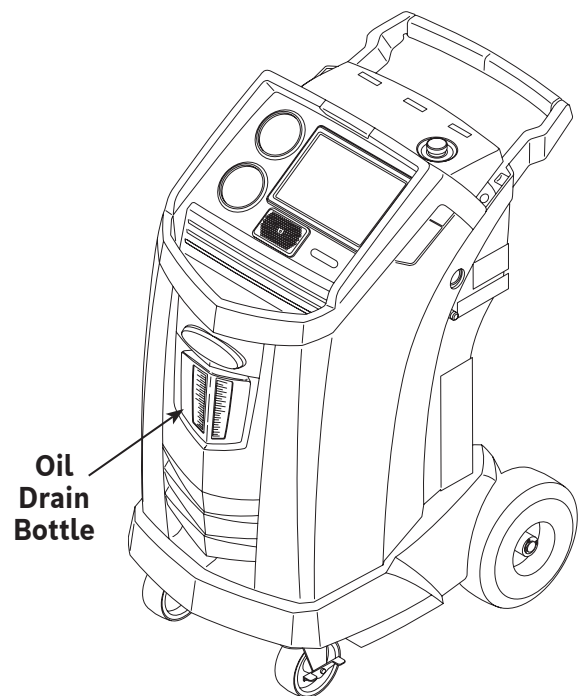

Figure 4
3. Remove the oil drain bottle (see Figure 4) from the Robinair machine. Drain the oil bottle, and dispose of the oil according to applicable regulations. Reinstall the oil drain bottle on the machine.